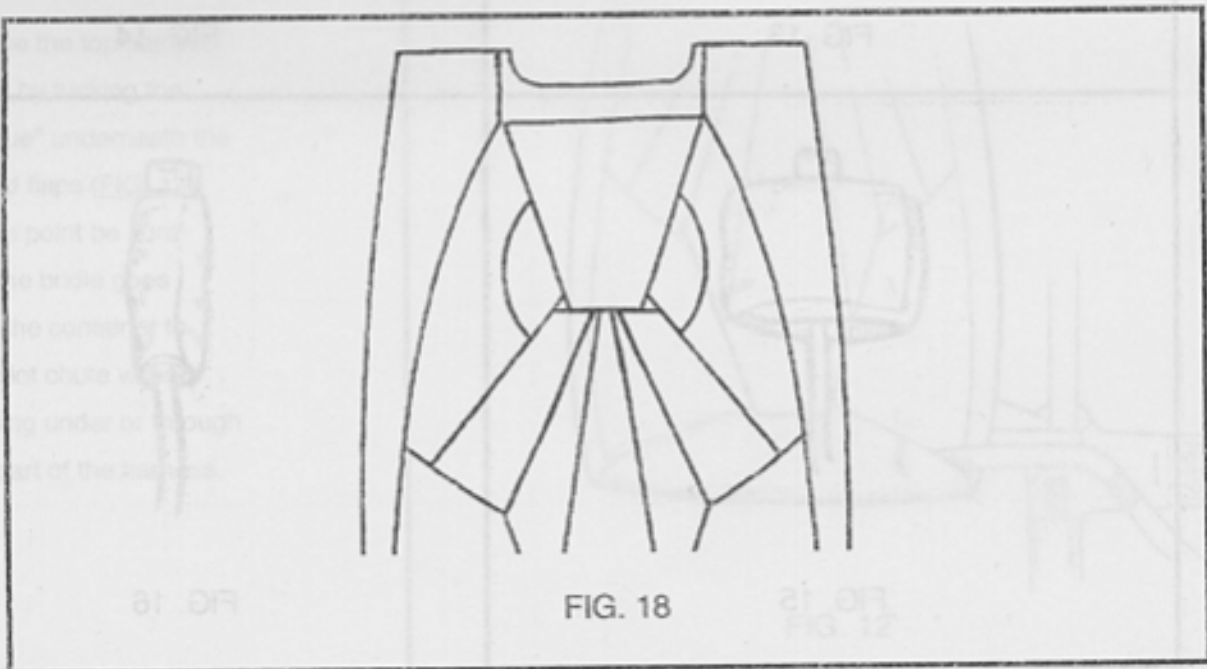

FIG. 18
- 19) Close the riser covers over the main risers (FIG. 18).